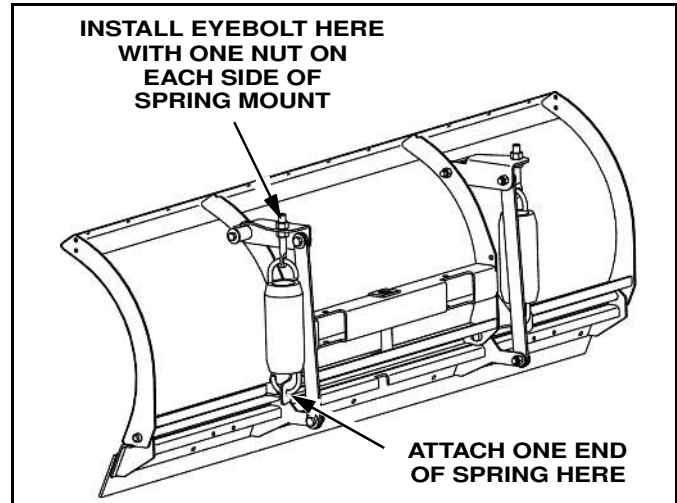

Figure 1-6
8. Hook one spring on lower blade bracket. (See Figure 1-6)
9. Thread a nut fully on one eyebolt. Hook free end of spring on eyebolt and insert eyebolt into Spring Mount. Loosely install a nut. (See Figure 1-6)